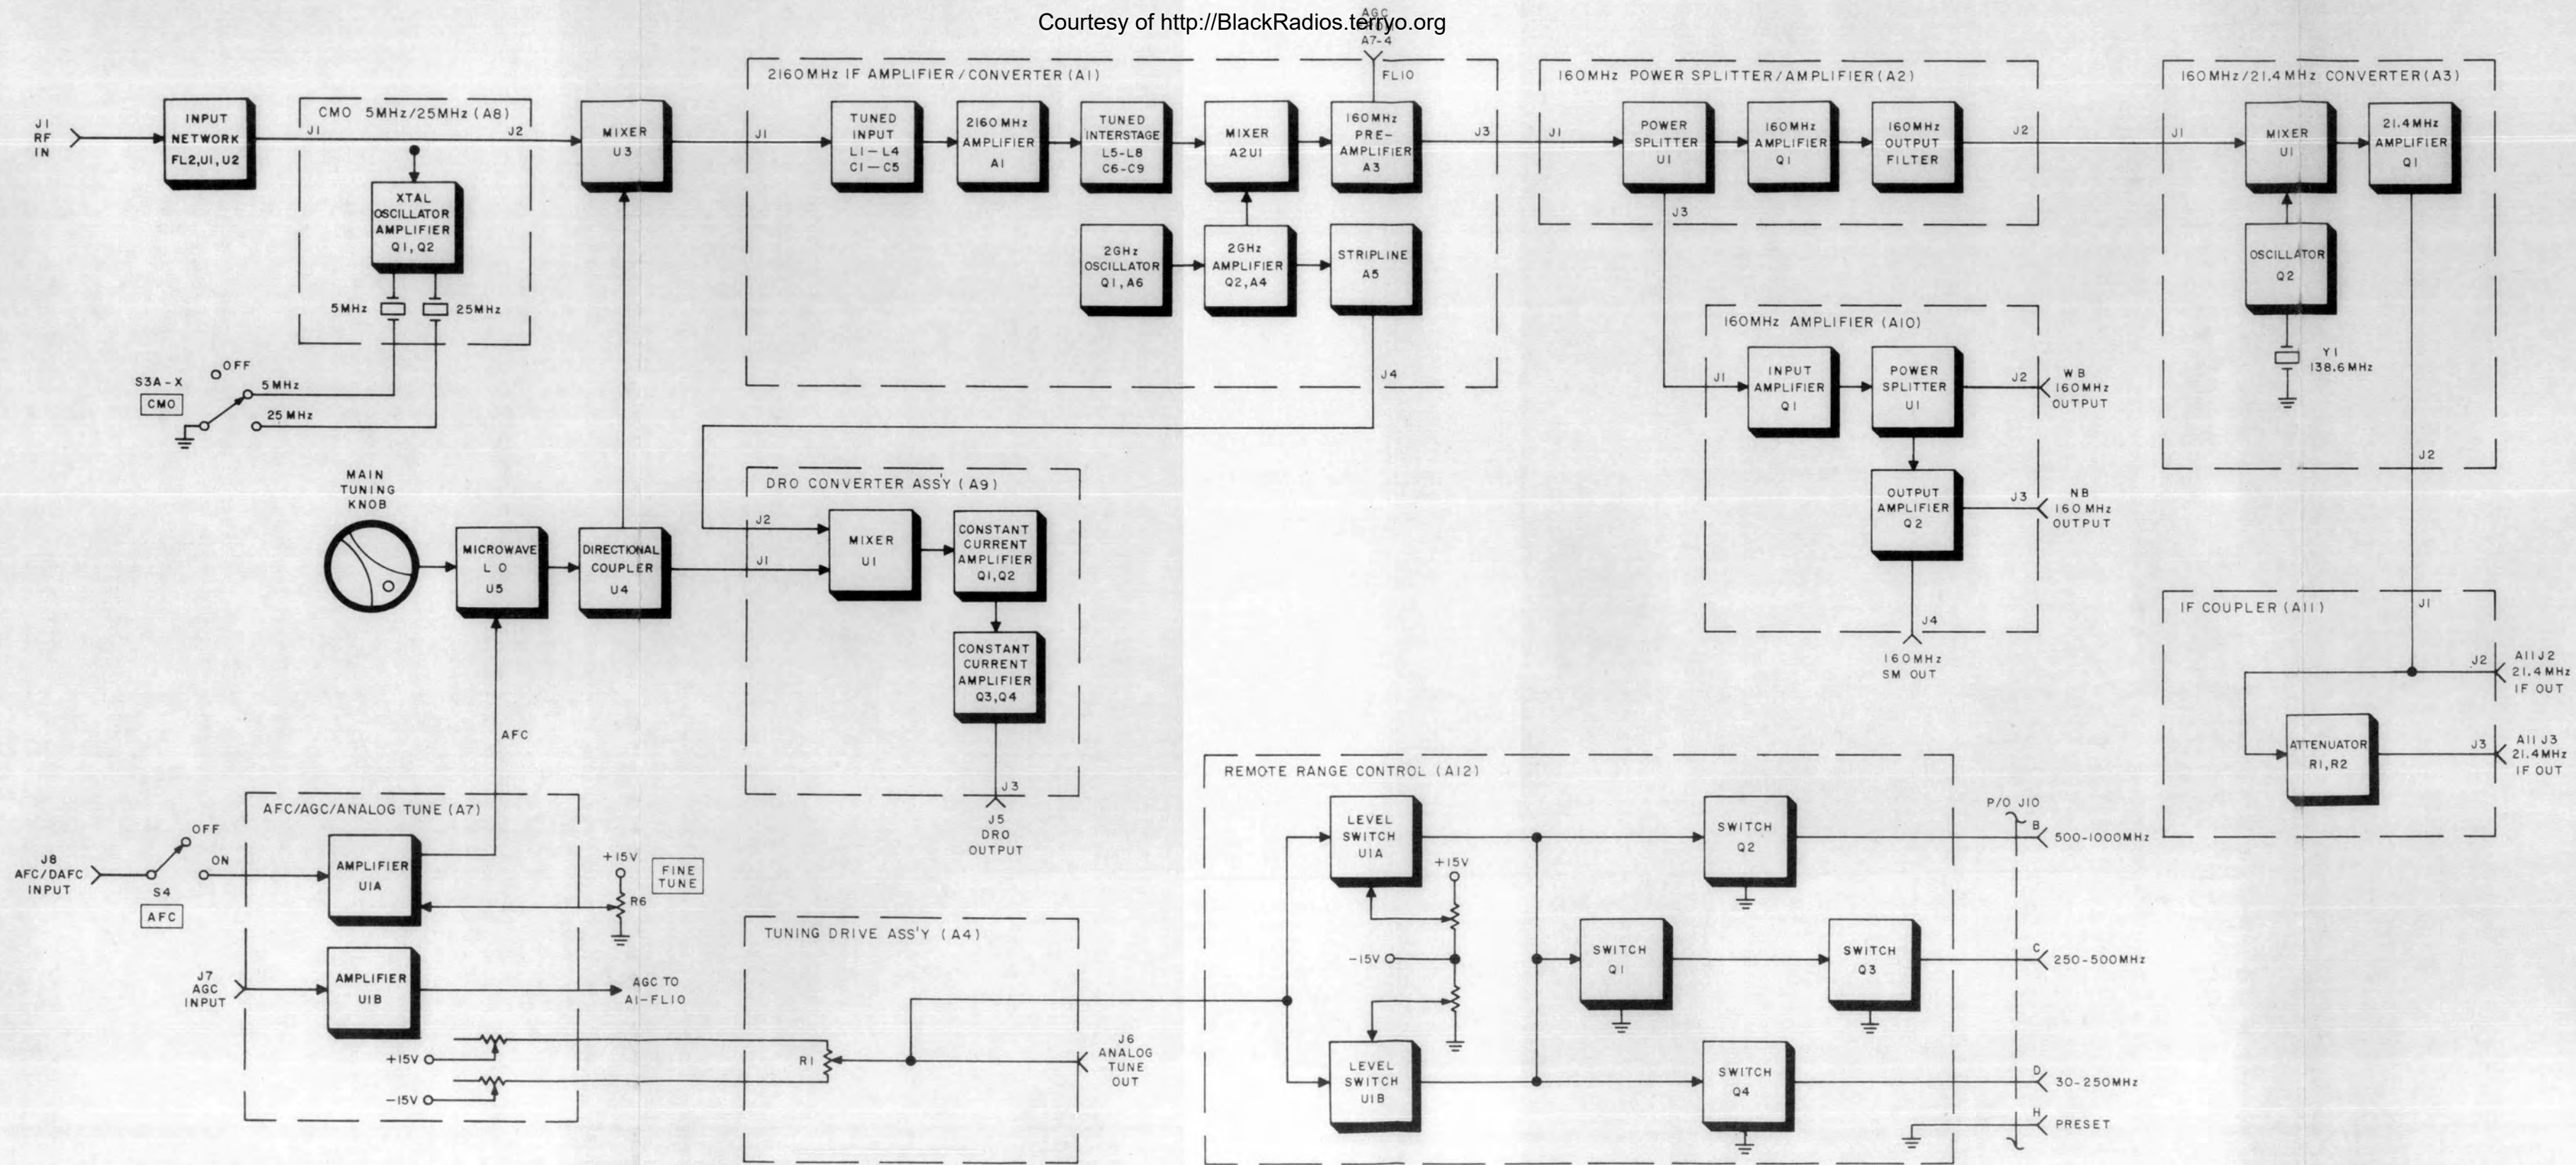

Figure 3-1. Type WJ-9080A Tuner, Functional Block Diagram
The operation of the various circuits in the WJ-9080A Tuner are described in the following paragraphs using the functional block diagram, Figure 3-1, and the schematic diagrams located in the rear of this manual. The WJ-9080A Tuner is designed to operate in conjunction with a Type DRO-333-1 Frequency Counter, a Type DM-4, DM-112 or DM-212 demodulator unit and a Type SM-9804A signal monitor. The unit numbering system is used to designate electrical components. This means that parts on subassemblies and chassis have a prefix before the usual class letter and number of the item, i.e., A1Q1 which designates the first transistor (Q1) on the first subassembly (A1).
The WJ-9080A Tuner has been conservatively designed to operate for extended periods of time with little or no routine maintenance. An occasional cleaning and inspection are the only preventative maintenance required. The intervals of these operations should be based on the operating environment. Should trouble occur, repair time will be minimized if the maintenance technician is familiar with the circuit descriptions found in Section III. Reference should also be made to the functional block diagram, Figure 3-1, the schematic diagrams located in Section VI, and the component location diagrams in Section V.
4.5.1 The troubleshooting efforts should first be directed towards localizing the problems to a particular module or circuit group. As an aid in this process, refer to the troubleshooting table (Table 4-2), the functional block diagram (Figure 3-1) and the detailed circuit descriptions in Section III. Once the defective module has been located the defective components can be isolated by using the schematic diagrams (Section VI) waveform photos and semiconductor voltages.